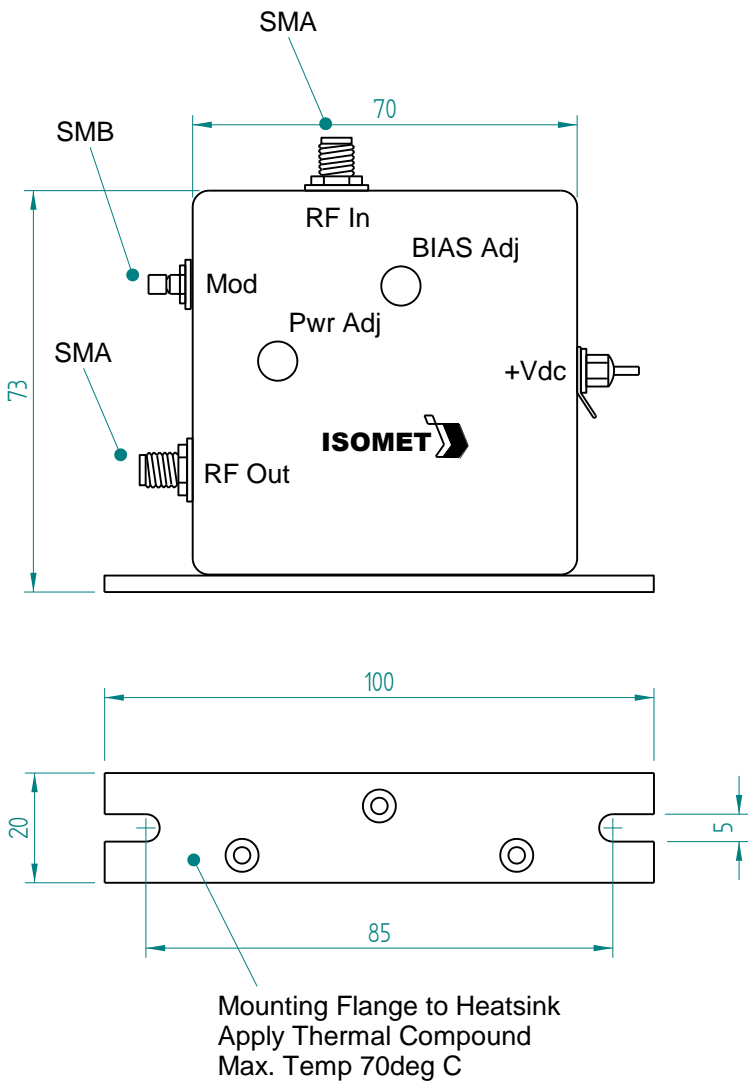

Figure 1: Driver Installation
- 3.1 Install the Amplifier on a heat sink as shown in figure 1. Use heat conducting compound between the Amplifier and mounting face and the heat sink.
- 3.2 With no d-c power applied, connect the positive (+) DC to the center terminal of the feed-thru terminal as shown in figure 1. Connect the 0V or ground connection to the earth tab.